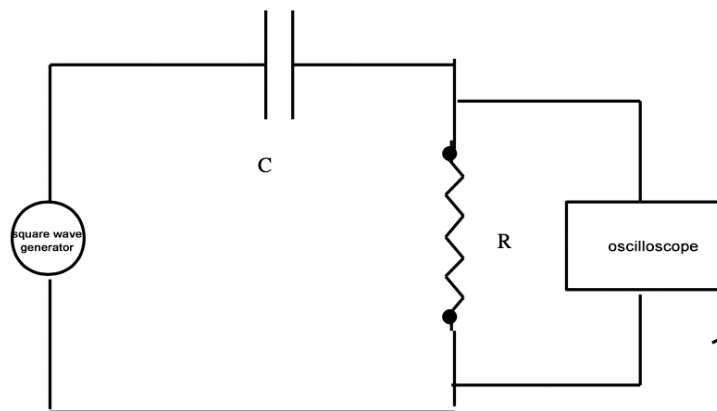

Figure 2: An RC circuit driven by a square-wave generator.  $R$  = potentiometer,  $C$  = capacitor.
3. Set up the circuit shown below in Fig. 2. Be sure that the (black) ground lead from the oscilloscope is connected to the same side of the potentiometer as the (black) ground lead from the signal generator.
- Put the blue and green capacitors, one at a time, in the circuit shown in Fig. 2, measure and record their capacitance by the time-constant method described above. You need only make one measurement of the time constant for each capacitor (set the potentiometer for 10 k $\Omega$ ). (Both capacitors are in  $\mu\text{F}$  range, so if your measurements differ wildly from this you will want to re-check them.)